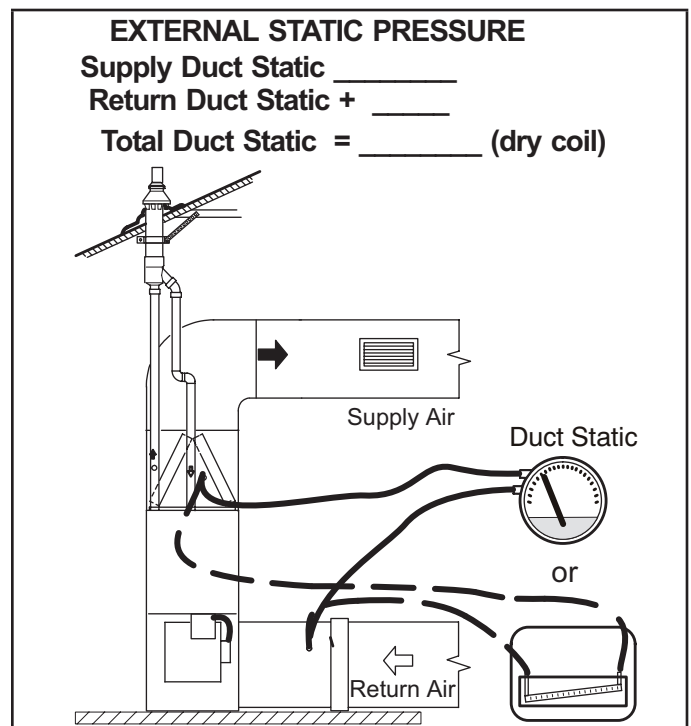

FIGURE 62
- 1 - Tap locations shown in FIGURE 62.